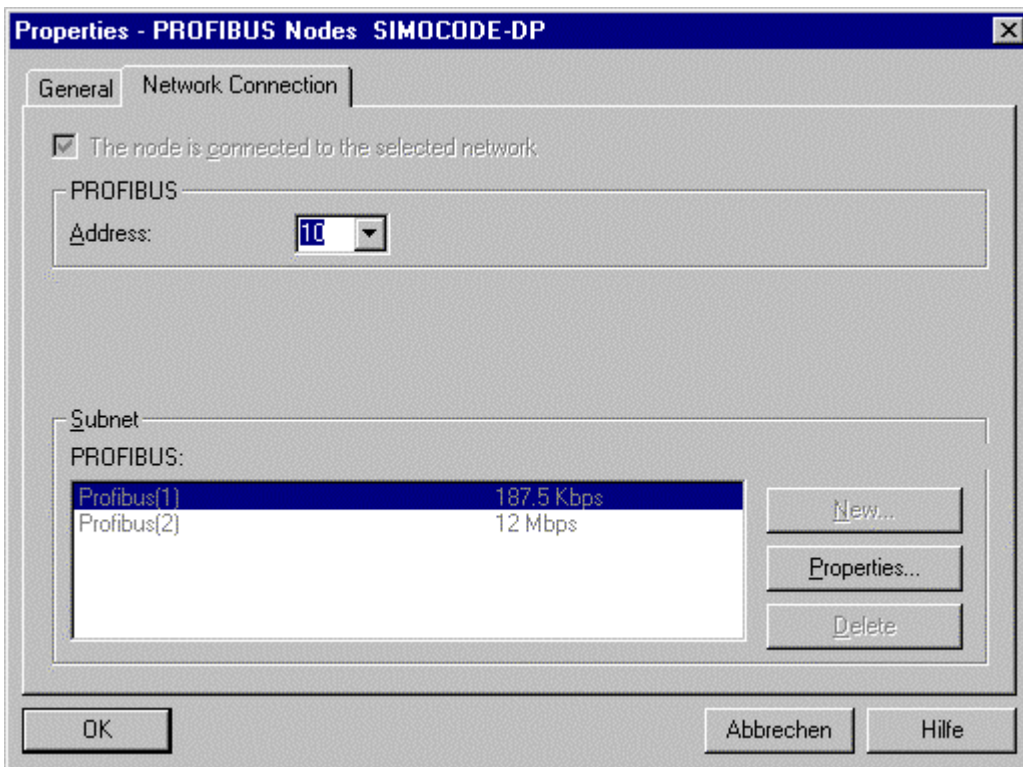

Figure 3
- Set the SIMOCODE® -DP to user address 10 (Figure 3).